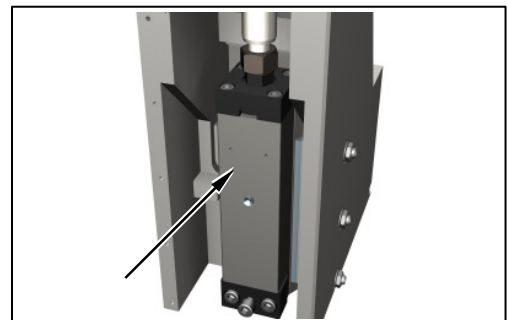

Fig. 12 Press ram (LP press only)
- ▶ Move press ram, only by LP Press, (**Fig. 12**) up and check the position.